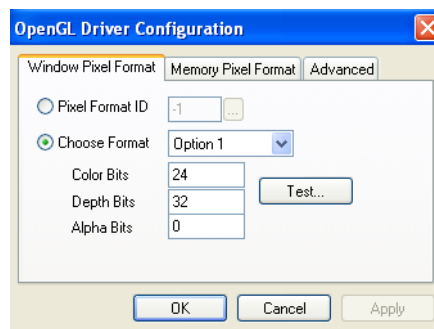

Figure 5-98: *OpenGL Driver Configuration* dialog box
4. In the *OpenGL Driver Configuration* dialog box (figure 5-98), select Pixel Format ID and enter this number.